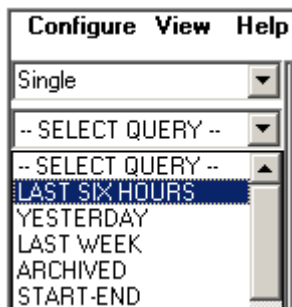

Figure 29. Selecting a Query
2. Select a query from the Query Selector, Figure 29. No data will be retrieved while -SELECT QUERY- is selected.